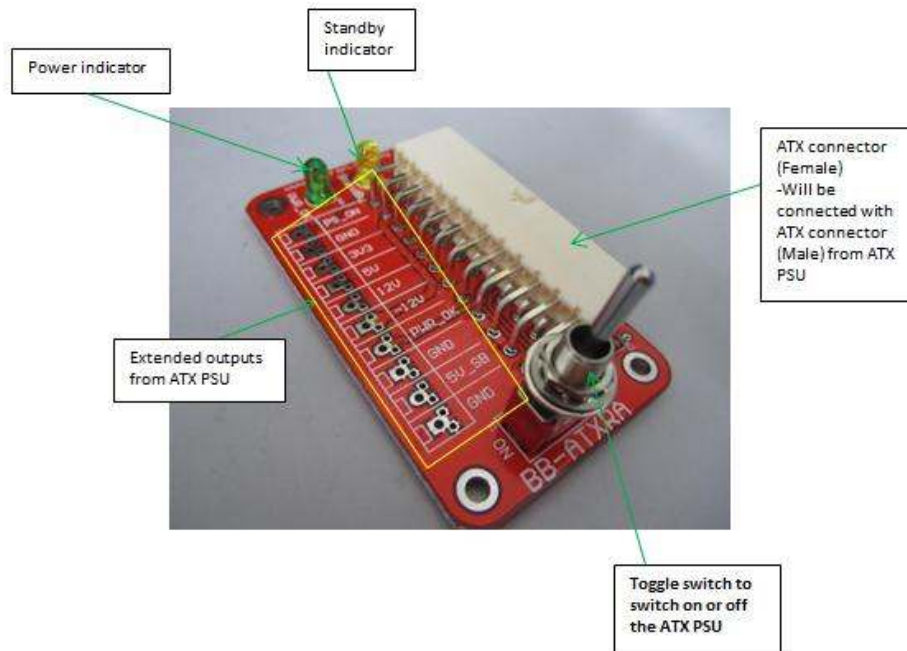

Figure 79: Close overview of the BB-ATXRA
1. The DC power supply used is the standard PC ATX power supply unit (PSU) as it is able to provide different level DC voltages (3.3V, 5V, 12V and even -12V). So, the DC 12V supply from ATX PSU can be extended to connect to SK40C (for power up purpose) and the 5V supply from ATX PSU can be extended to connect to 74HC164N ICs (for power up and providing current for lighting up LEDs purposes) on the microcontroller circuit board. To extend out voltages supply from the ATX PSU to be used by the microcontroller circuit board, the Breakout Board ATX Right Angle (BB-ATXRA), a product of Cytron Technologies can be used for this purpose. The close overview of the BB-ATXRA is shown in Figure 79 below.